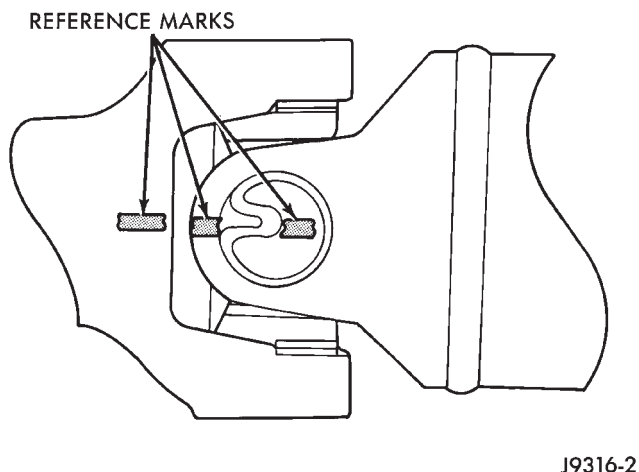

Fig. 6 Marking Propeller Shaft And Axle Yokes
- (4) Remove skid plate, if equipped.
- (5) Remove slave cylinder from clutch housing.
- (6) Mark rear propeller shaft and rear axle yokes for installation alignment (Fig. 6).